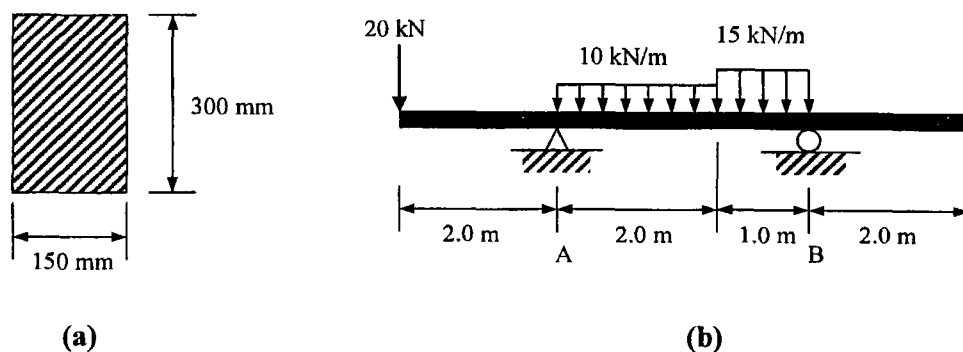

Figure 1 / Rajah 1
- (b) A rectangular beam section as shown in Figure 1(a) is subjected to a concentrated load and two uniformly distributed loads as shown in Figure 1(b). The beam is pinned at A and roller at B.
- ii. Given the allowable bending stress and shear stress of the material used for the beam are 8.0MPa and 0.8MPa, respectively. Check if the section selected as shown in Figure 1(a) is safe to be used or not.